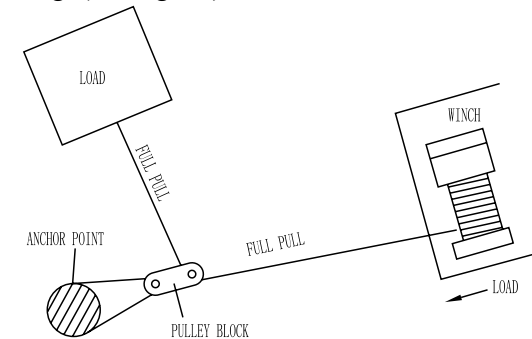

Fig. 11
- The use of a pulley block to change the direction of the pull. Mechanical advantage can be obtained by attaching a pulley block to the nylon sling. (See fig. 11)